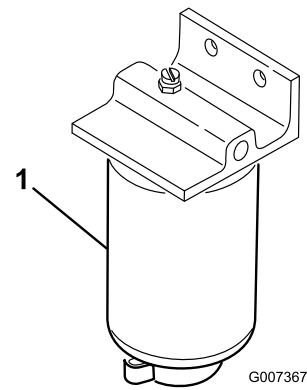

Figure 53
1. Place a clean container under the fuel filter (Figure 53).